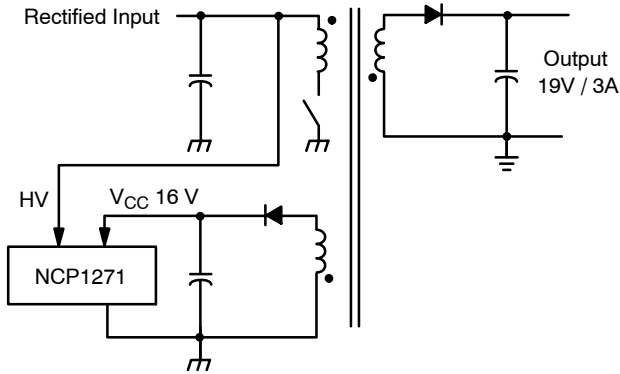

Figure 6. V_{CC} Biasing Scheme
The NCP1271 includes a high voltage (HV) startup pin (Pin 8) which charges V_{CC} to its operating level. This pin can be directly connected to the high voltage DC bus. Once the device is powered up, an auxiliary winding powers V_{CC} as shown in Figure 6.